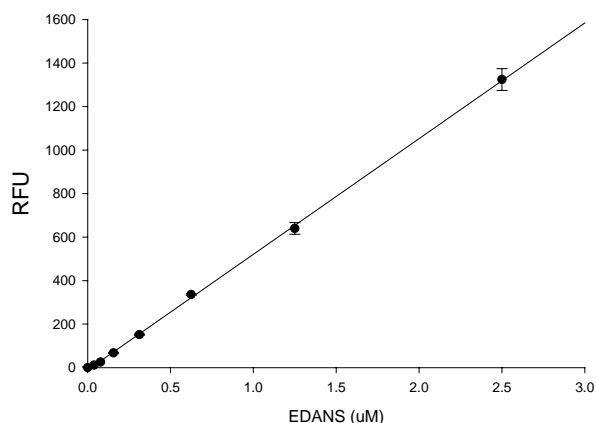

Figure 1. The EDANS reference standard calibration curve.
- Plot EDANS fluorescent reference standard as RFU (relative fluorescent unit) versus concentration as in **Figure 1**.